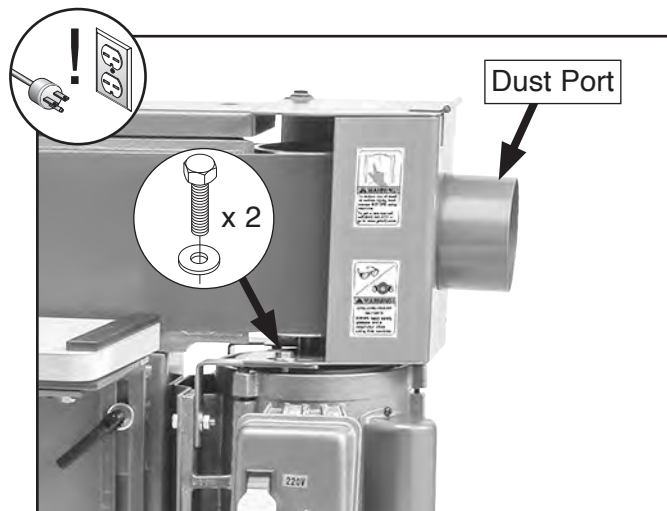

Figure 62. Location of dust port and fasteners.
- Remove (2) hex bolts and flat washers shown in **Figure 62** to remove dust port.